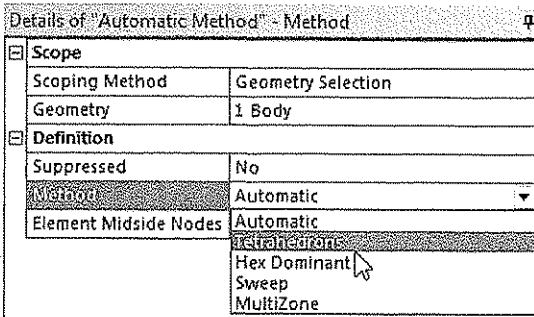

Figure 7-91 Selecting the *Tetrahedrons* option from the *Method* drop-down list
6. In the **Method** drop-down list, select the **Tetrahedrons** option, as shown in Figure 7-91; the **Algorithm** drop-down list is displayed below the **Method** drop-down list. Also, the **Details of "Automatic Method"** window is replaced by the **Details of "Patch Conforming Method"** window.